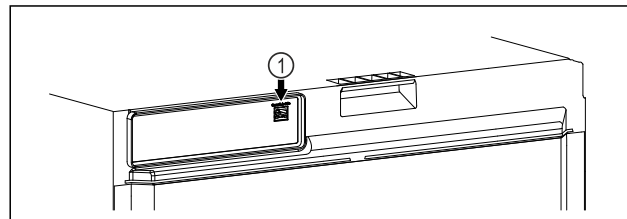

Fig. 114
- ☐ SmartModule Fig. 114 [1] is inserted.